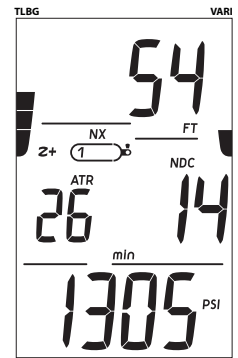

Fig. 52A - NO DECO MAIN
**NO DECO DIVE MAIN**, information includes (Fig. 52A/B) -